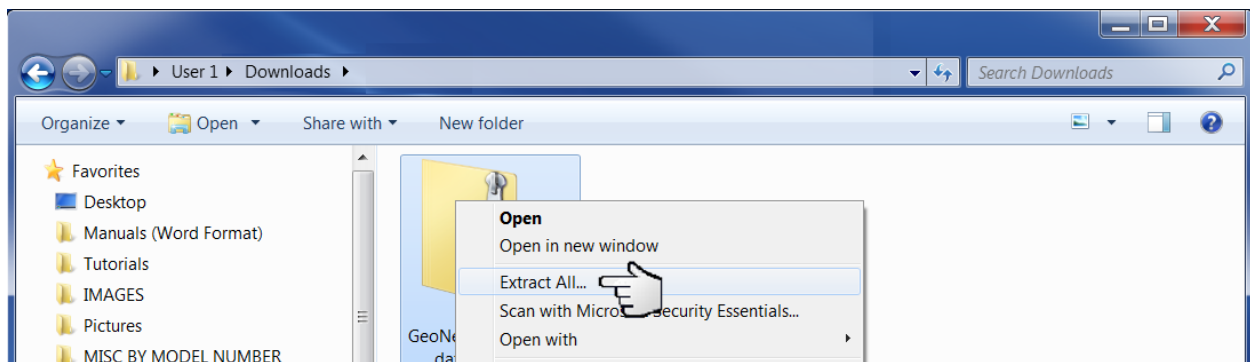

Figure 3 - Run “GeoNetUpdateUtility.exe”
- 4) Right click on the downloaded file and choose “Extract All...” (Figure 3).